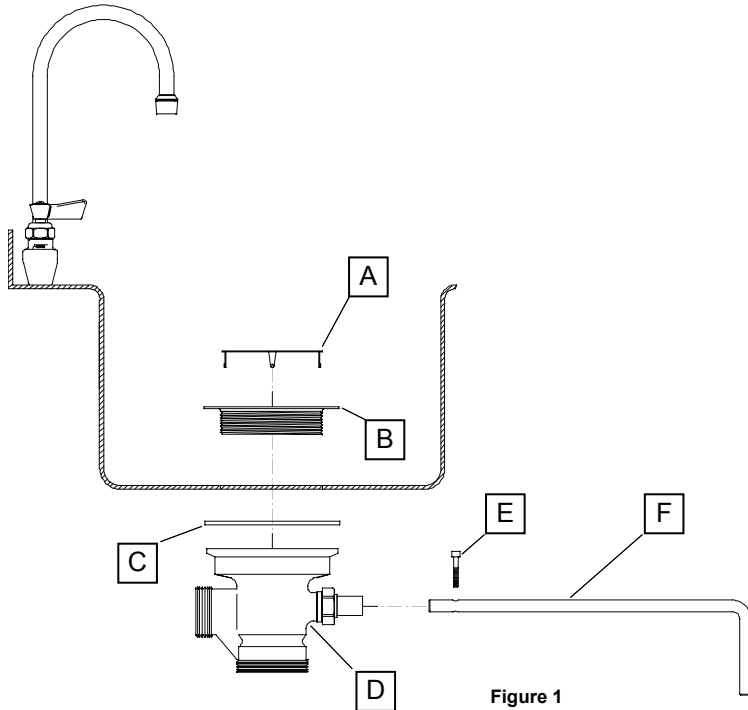

Figure 1
1. Place gasket (C) on top of valve body (D).
2. Keeping gasket in place, butt the valve body against the bottom of the sink and hand tighten the clamping ring (B) into the valve body from inside of the sink. Note: Following normal plumbing practices, a small bead of silicone is recommended between the clamping ring and sink compartment.
3. Using a spanner wrench, completely tighten the clamping ring. Note: the hole in the rotor arm must be pointing towards the front of the sink as shown in Figure 1.
4. Insert handle (F) into hole and attach with screw (E)